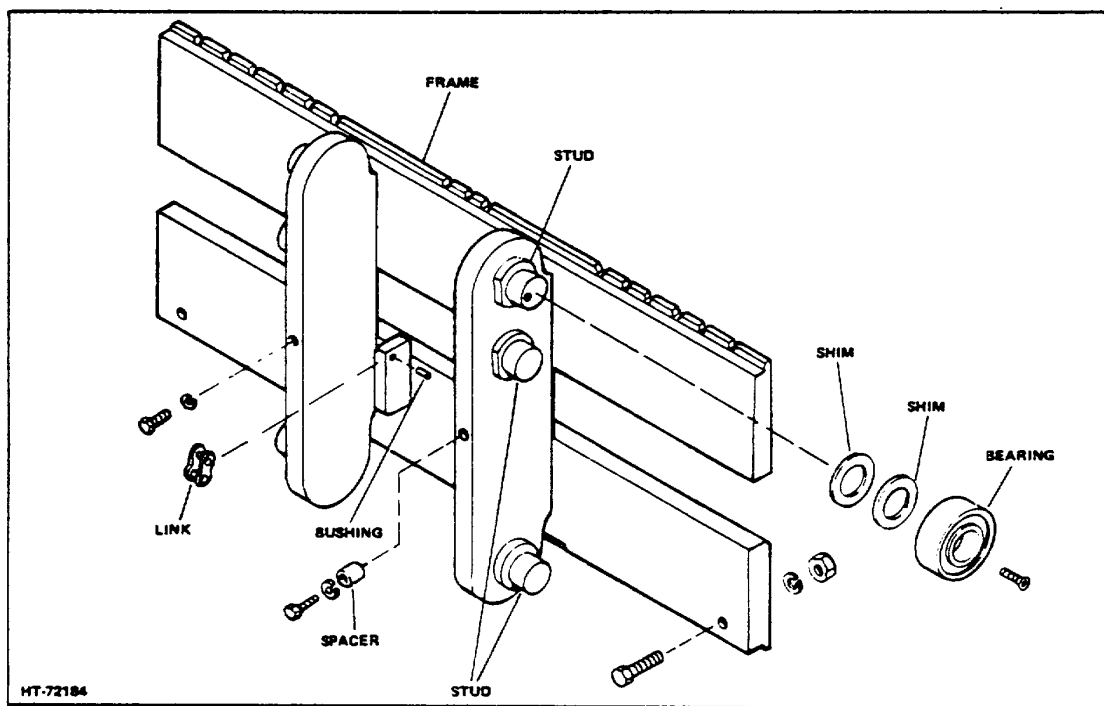

Figure 1. Hook Type Carriage Assembly (Typical)
E. ADJUSTMENT-CANTED BEARING TYPE (Fig 1)